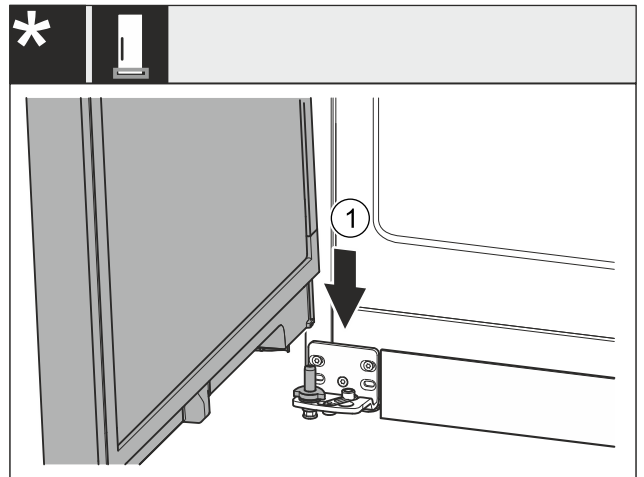

Fig. 44 *
- Lower the door onto the bottom bearing bolt Fig. 44 (1).*